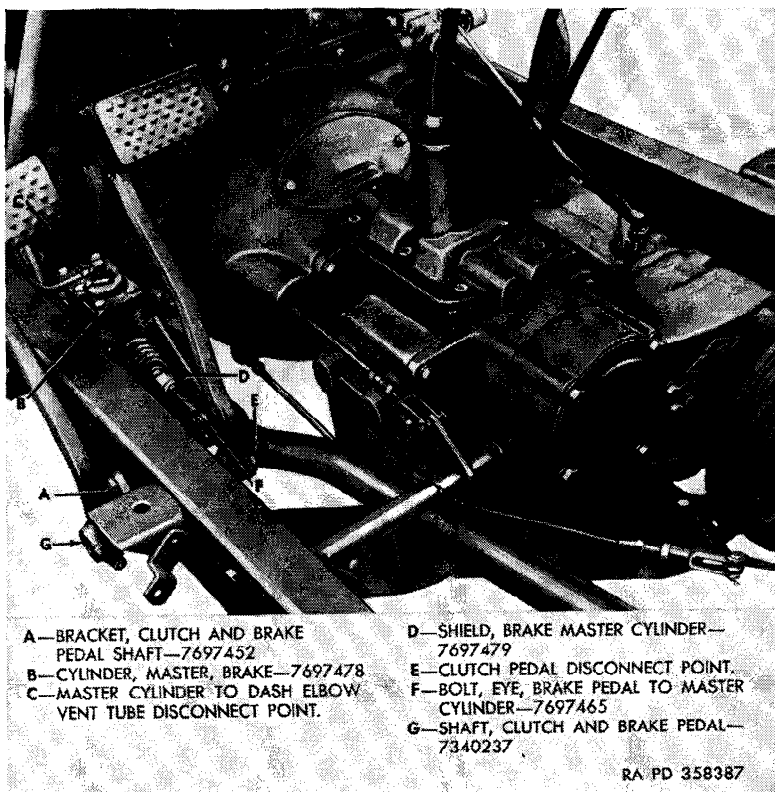

Figure 22. Left center view of chassis.
34. Remove Brake Master Cylinder, Clutch, and Brake Pedals (fig. 22)
Install clutch and brake pedal shaft bracket (fig. 22) with clutch pedal and shaft attached, to the frame with three bolts, lock washers, and nuts. Connect clutch rod to shaft on clutch pedal and secure with a cotter pin. Slide brake pedal on shaft. Place brake master cylinder shield on clutch and brake pedal shaft and secure assembly with a cotter pin. Place brake master cylinder in place, holding